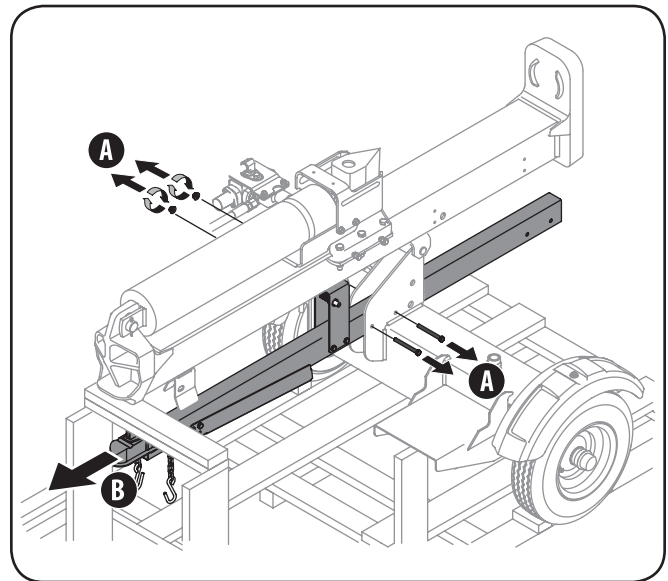
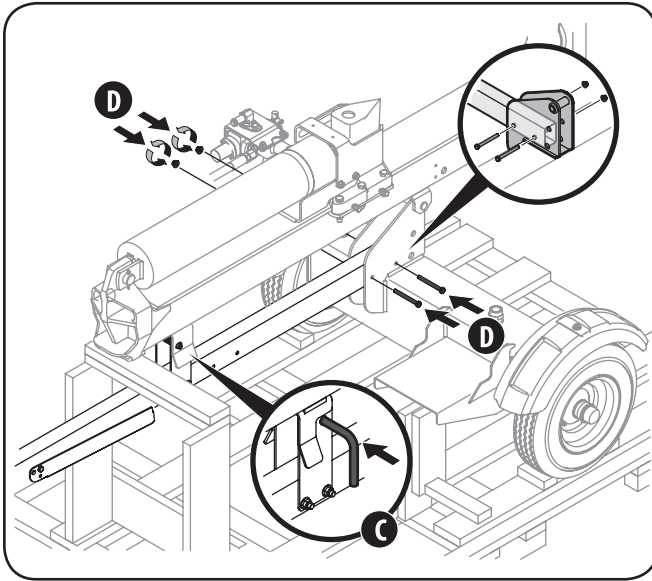

Figure 3-2
Figure 3-3
For shipping purposes, the tongue tube is secured to the log splitter frame near its center. To reposition it, refer to Figure 3-2 and Figure 3-3 and proceed as follows:
3. Pull the beam lock outward, line it up with the hole in the beam bracket and release the beam lock. See Figure 3-3.
4. Fasten the tongue tube to the frame by reinstalling the two three-inch hex screws removed in Step 1 and tightly securing with the two flange lock nuts. See Figure 3-3.